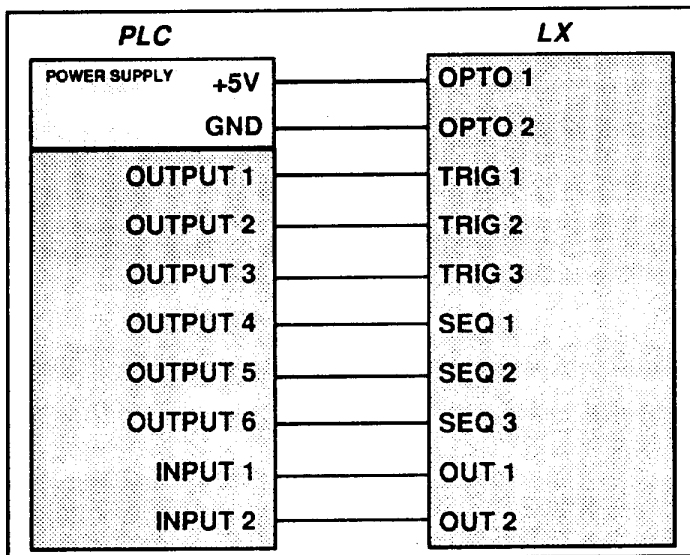

Figure 4-8. PLC Connections
Assuming your PLC accepts open-collector outputs, connect the inputs and outputs as shown in Figure 4-8. If not, contact a Compumotor Applications Engineer at (800) 358-9070.